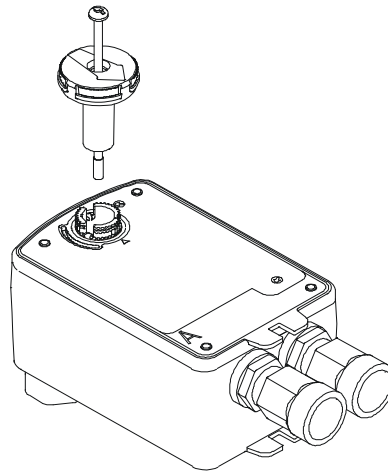

Figure 8: Installing the fixed pointer
6. Insert fixed pointer and M4x0.7x83 mm long screw into the Side A actuator hub (Figure 8). Direct the arrow on the pointer to 100%.